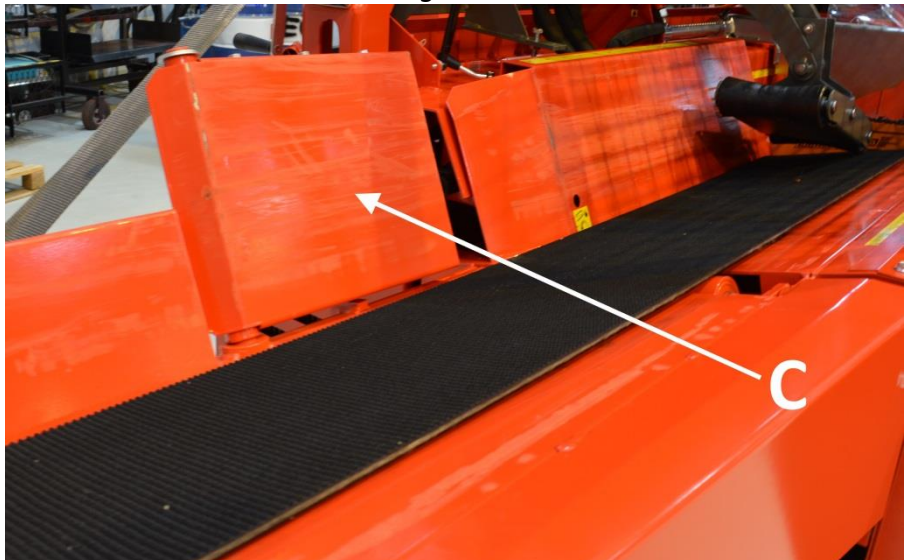

Figure 6.
4. Turn log guide plate C into the working position, as shown in Figure 6.